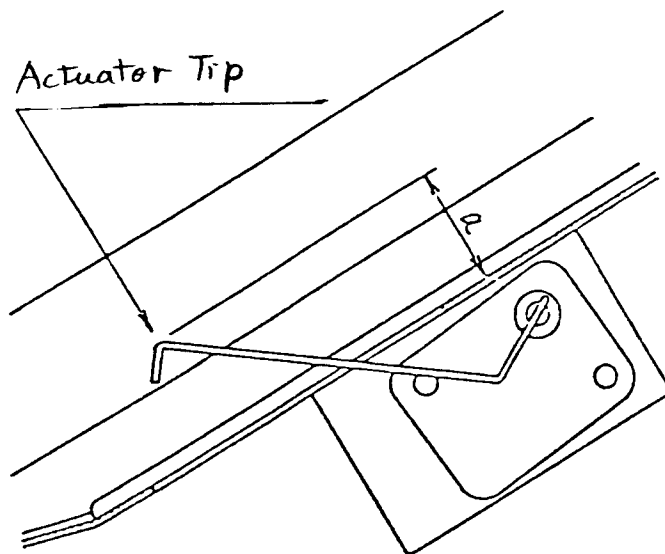

Fig. 7-3
2. When the microswitch turns on, check the distance between the tip of actuator and the film guide surface, "a" in Fig. 7-3. It should be more than 15mm. (It is desirable however that the distance is as maximum as possible.)